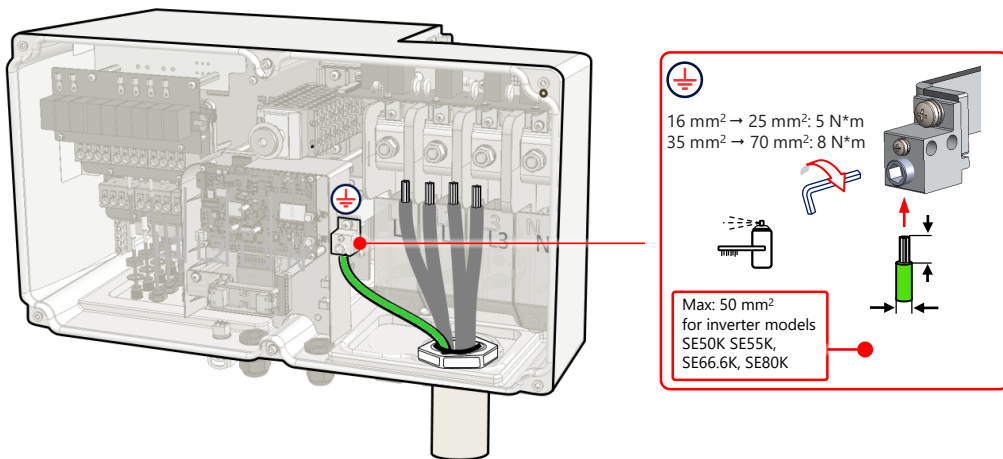

Figure 20: Connecting of PE (grounding) wire
4. Connect the PE wire to the PE terminal and fasten the Allen screw with a torque (see figure 20)